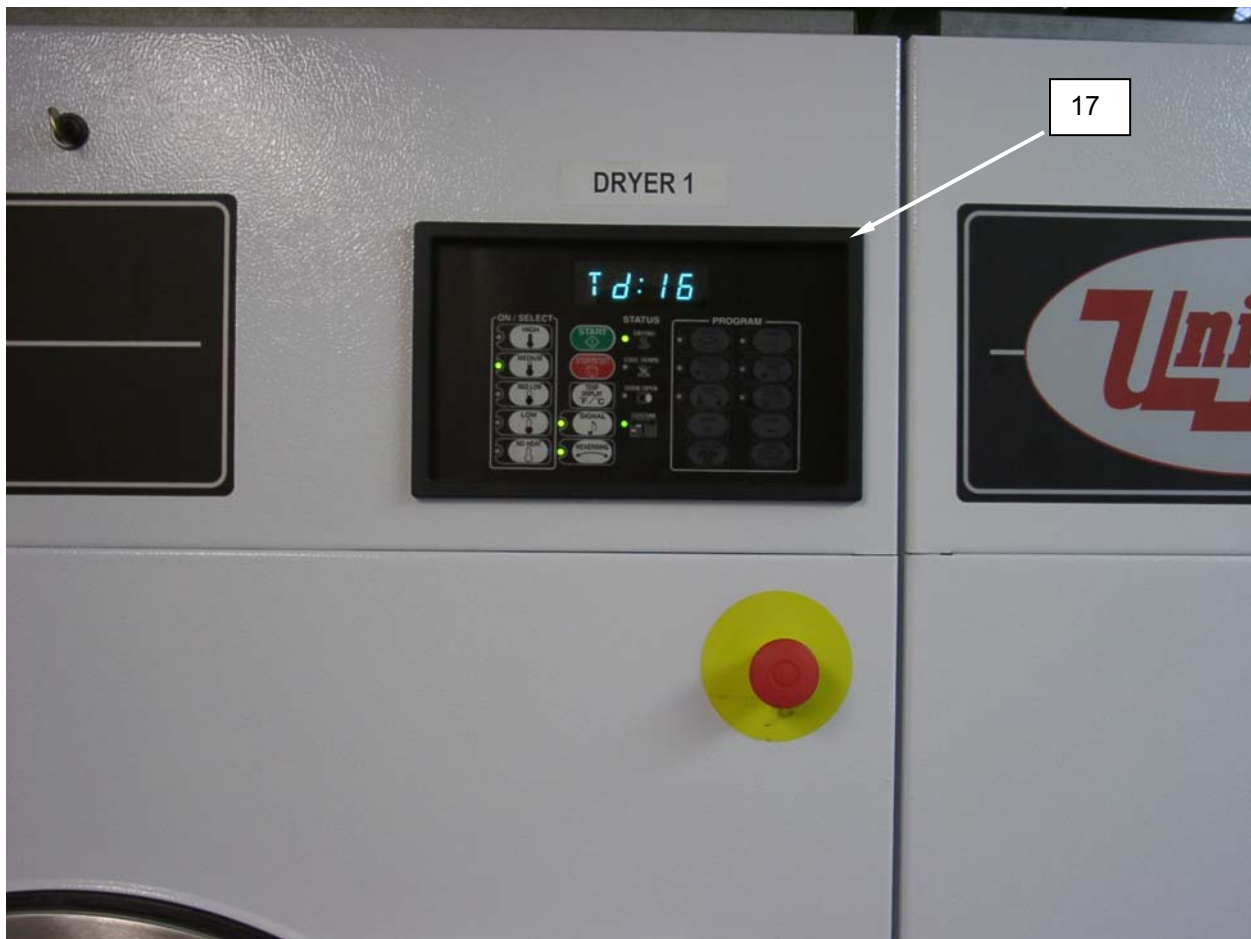

Figure 14. Replace the Control Panel Display Overlay.
3. Remove overlay (**Figure 14, Item 17**) from display. Ensure all traces of the old overlay and adhesive are removed.
4. Install replacement overlay (**Figure 14, Item 17**).